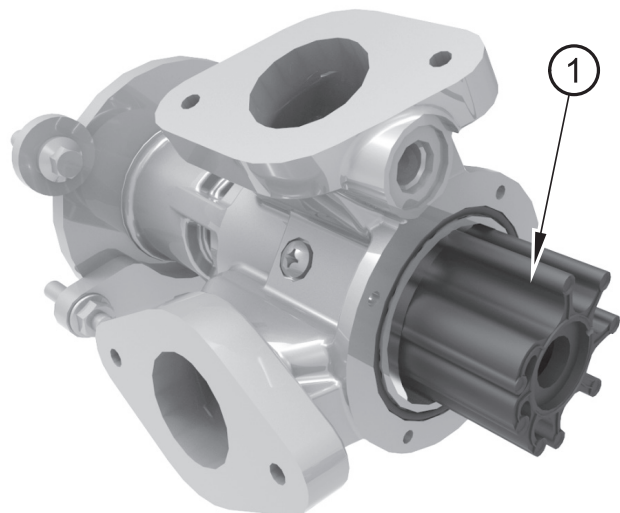

Figure 11
4. Remove the rubber end cap (item 2) and then pull the impeller from the shaft (figure 11 item 1).